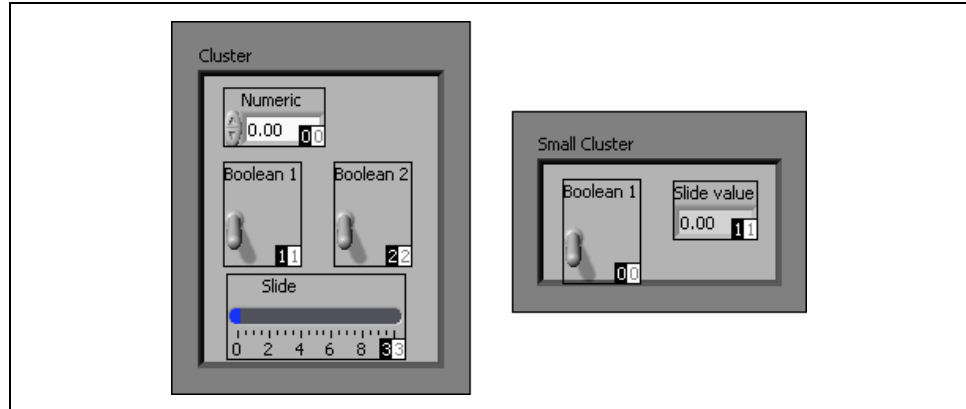

Figure 4-22. Cluster Orders
- Confirm the cluster order shown in Figure 4-22.
- Confirm the cluster orders shown in Figure 4-22. **Modified Cluster** should have the same cluster order as **Cluster**.
- Confirm the cluster orders shown in Figure 4-22.